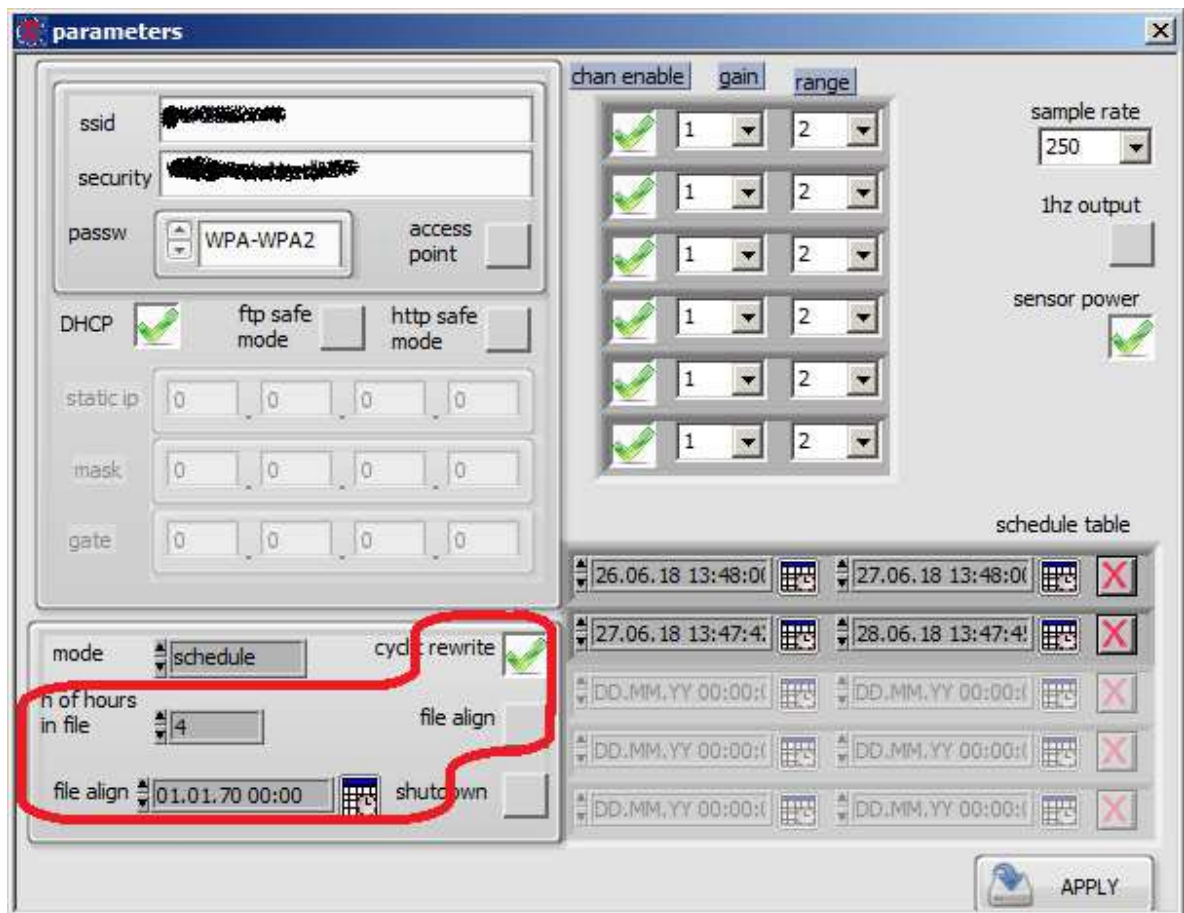

Fig. 13. Operation Modes
- **Files Recording mode:** operation mode switches are located to the left of the date and time fields (Fig. 13)